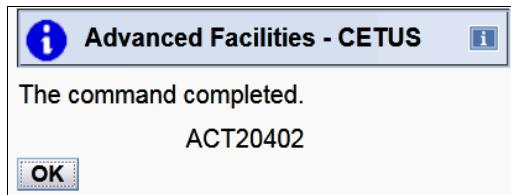

Figure 6-19 OSA/SF on the HMC: message when activation completed
15. When the activation is successfully, the window shown in Figure 6-19 is displayed. Click **OK** to complete the process.